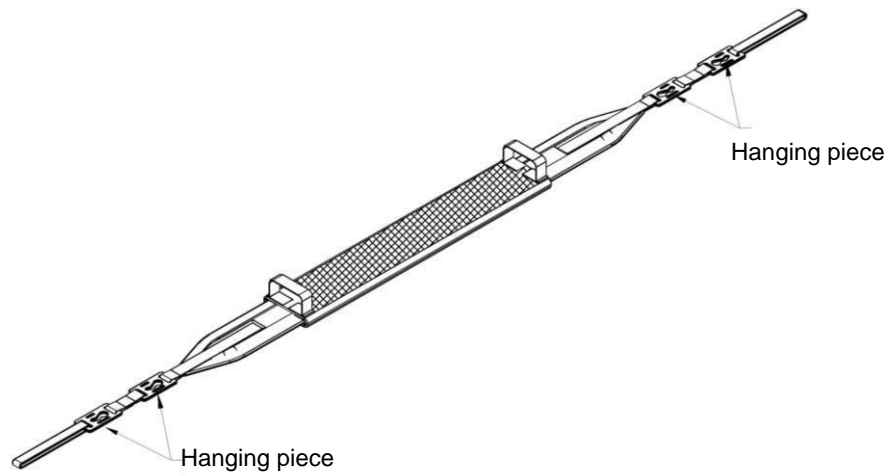

Fig. 1
1. The safety belt is packed assembled. Simply remove it from the package for use.(Fig.1)